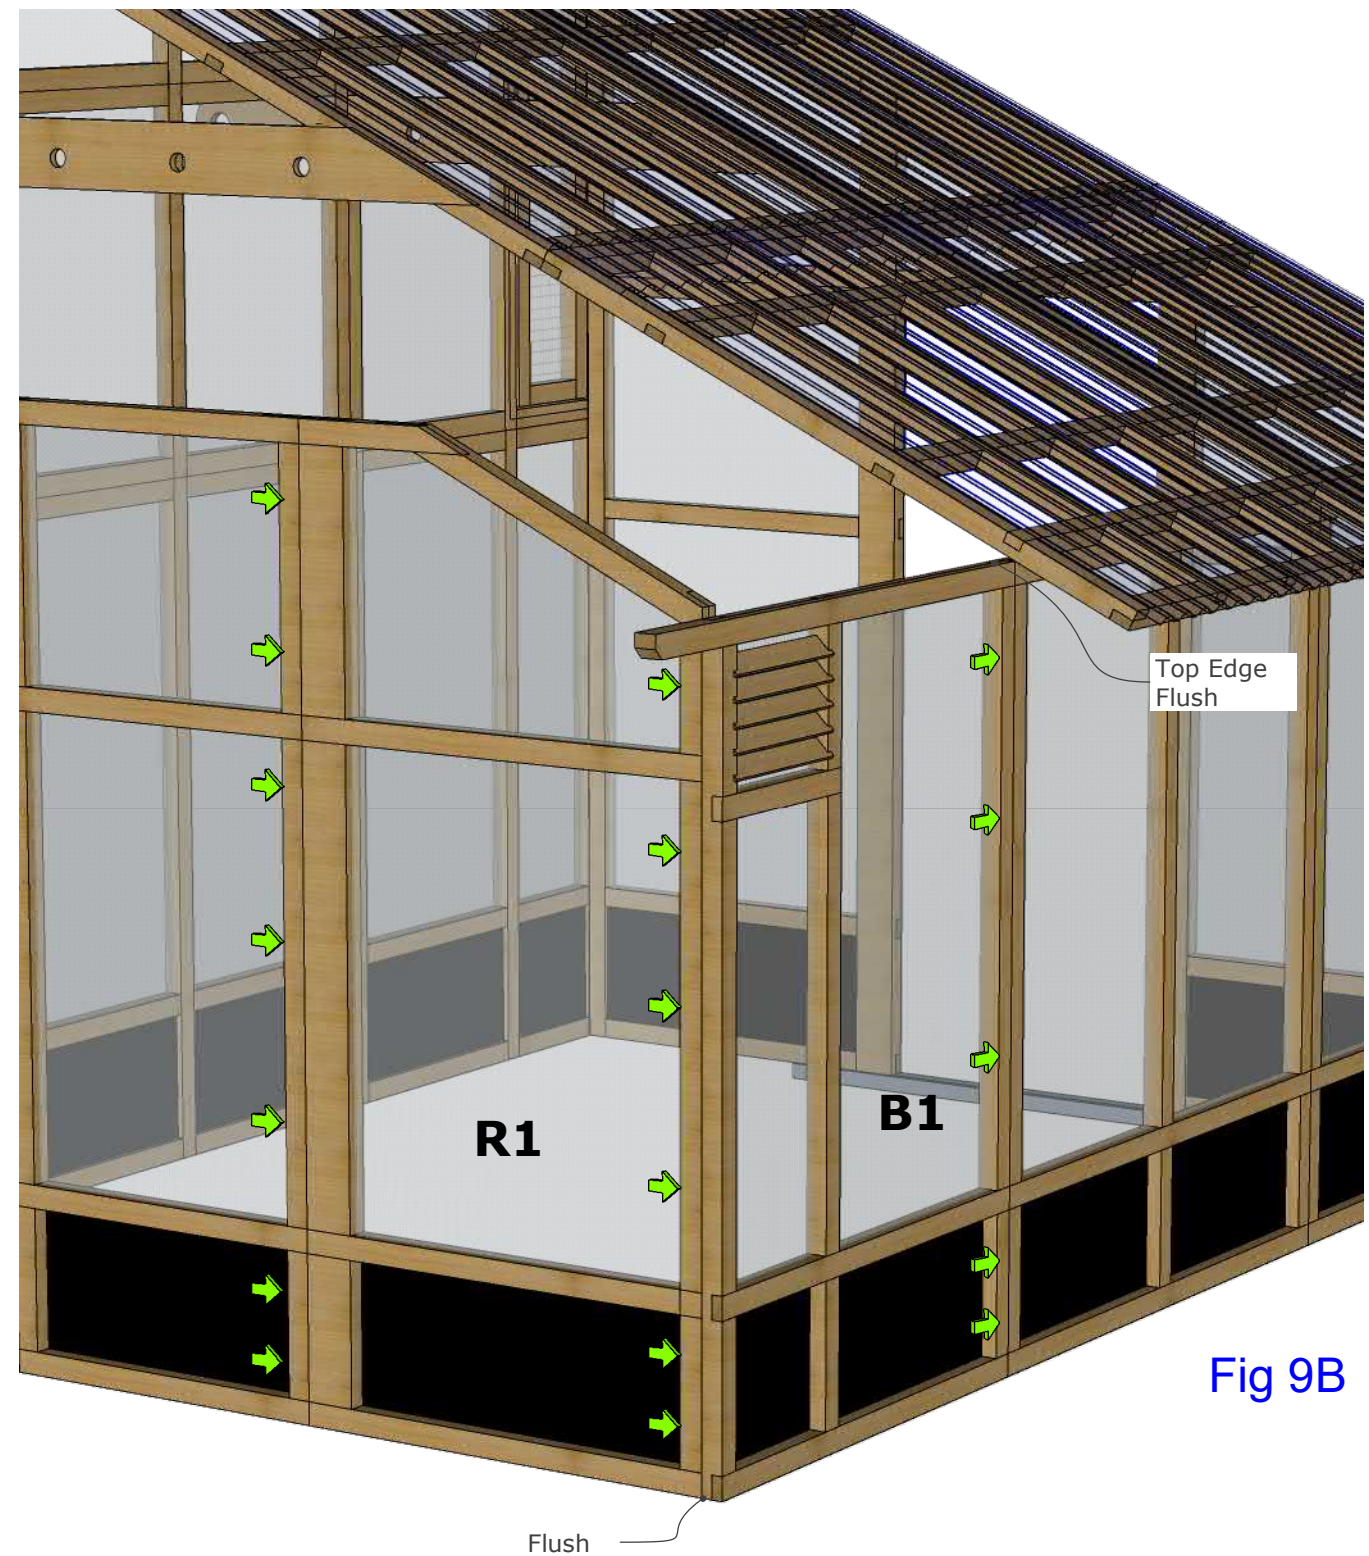

Fig 9B
9.4 Install B1 Panel: Using provided T25 screws install B1 panel as illustrated in FIG 9B making top edges flush and straight with other back panels.